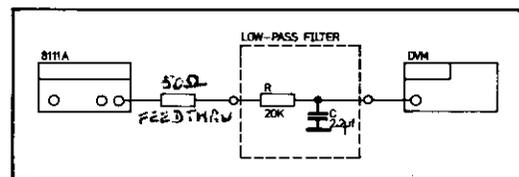

Figure 5-3
DVM, Lowpass filter as shown in Figure 5-3, Scope, Spectrum analyser (Distortion analyser)
7. Set DVM to DC, 10V Range. Use DVM built in filter function, otherwise use set-up as shown in Figure 5-3